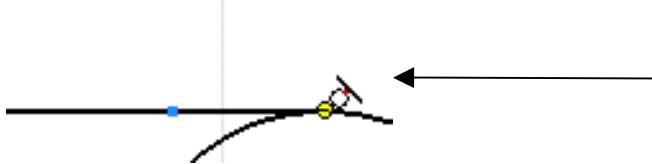

Figure 2.4.10: Lines Connected to Circles in full Tangency
10. Now, grab the end of each line, where a red dot will form, and drag it until the red dot makes the tangent constraint symbol on each circle. Refer to figure 2.4.9 for this. Do this for every line and your screen should now look like figure 2.4.10.